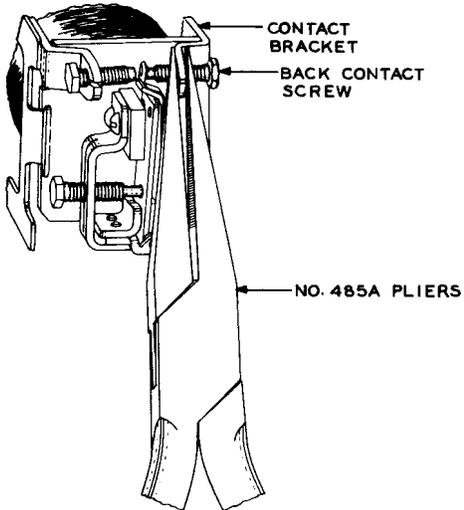

Fig. 18 - Method of Adjusting Front End of Contact Bracket
(3) If after adjusting the contact separation as covered in (2) the separation is not sufficient, it may be due to the contact disc on the contact spring contacting one of the contact screws near the bottom of the disc and the other screw near the top of the disc. To better align the contacts adjust the contact brackets at the front of the bracket with the No. 485A pliers, as shown in Fig. 18, so that adjacent points on the contacting surfaces of the disc on the contact spring will strike the approximate centers of the contacts on the front and back contact screws. After making this adjustment, check the armature travel and, if necessary, readjust. Recheck